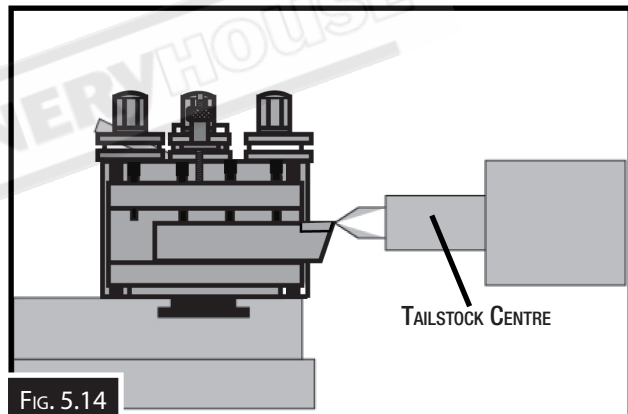

FIG. 5.14
4. Adjust the height of the cutting tool tip to meet the center tip, as shown. (Fig.5.14)